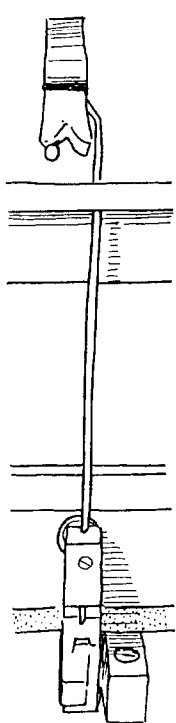

figure 3a
*Travel the wires:* The damper wire should not lean as it passes through the guide rail, and should not strain the underlever to either side (figure 3a). Look first just below the guide rail and travel the wire so it rises vertically through the